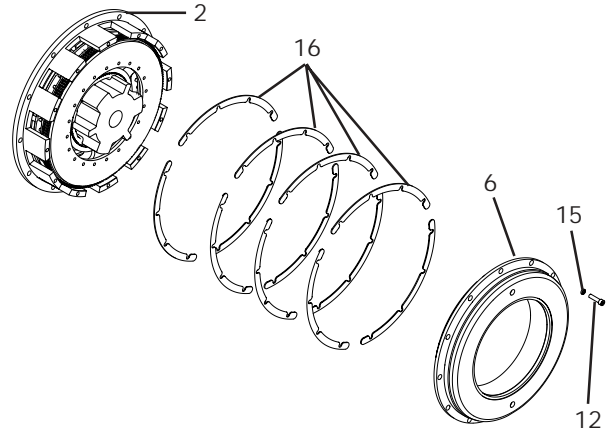

Figure 9
1. Alternately and evenly remove the twelve Socket Head Cap Screws (Item 12) and Lock Washers (Item 15) (See Figure 9).
2. Remove the Piston (Item 6) to free the Shims (Item 16) (See Figure 9).
3. Remove the Shims (Item 16) (See Figure 9).
11. Reassemble the brake, installing the Shims (Item 16) (See Figures 9, 10, and 11).
12. Apply a drop of Loctite® 242 to the threads of the twelve Socket Head Cap Screws (Item 12) (See Figure 9).
13. Using the twelve Socket Head Cap Screws (Item 12) and Lock Washers (Item 15), secure the Piston (Item 6) to the Housing (Item 2) (See Figure 9).
14. Alternately and evenly tighten the twelve Socket Head Cap Screws (Item 12) to 89 ft-lb [120.67 Nm] torque (See Figure 9).